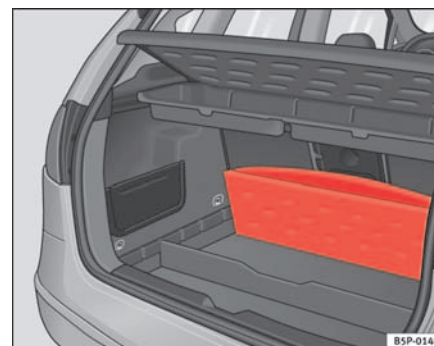

Fig. 104 Foldable luggage compartment cover
- Lift the luggage compartment floor and fold it back all the way ⇒ page 133, fig. 104.